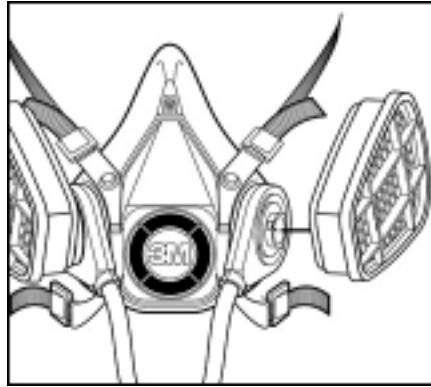

Fig. 10
3. Make a selection of cartridges and/or filters that meets your respiratory protection requirements, and attach to outer bayonets of 3M SA-1600 or SA-2600 breathing tubes. (Fig. 10)